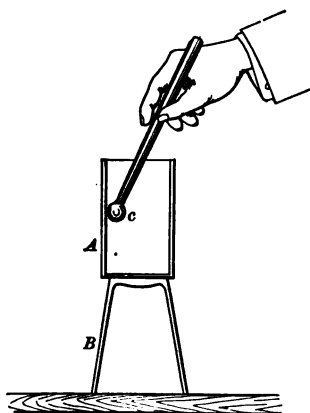

FIG. 211. — Charging a metal can.
**248. Distribution of electricity on a conductor.** Let us place a metal can, such as is used for heat measurements, on a glass plate as shown in figure 211, and connect it with an electrical machine by a wire. After we have charged the can as much as possible, we may test it at various points by means of a little metal disk or ball mounted